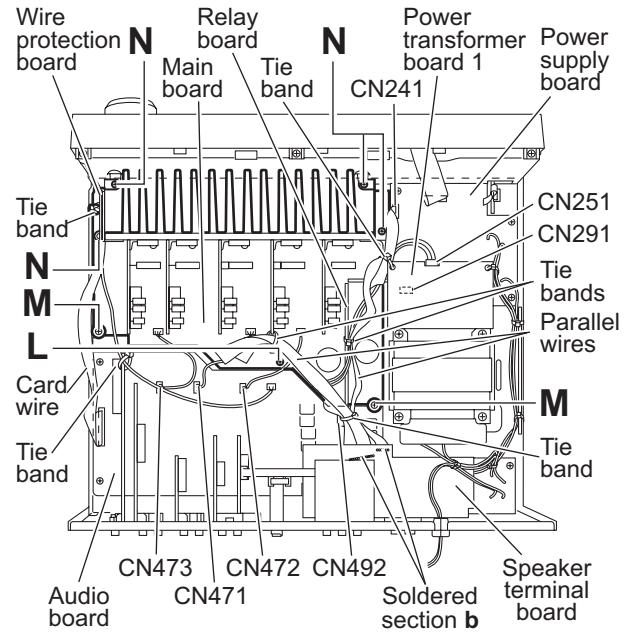

Fig.11
- (1) From the top side of the main body, remove the solders from the soldered sections **a** on the speaker terminal board.
3.9 Removing the main board (See Fig.11)